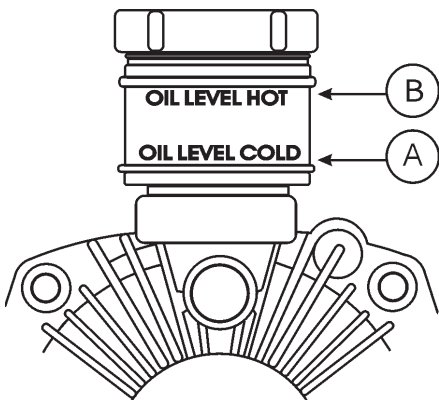

Figure 10. Transmission Reservoir
DO NOT overfill the expansion tank. (See figure 10). Note the level marks on the oil reservoir. It is essential to reference the existing oil conditions (A) "cold" or (B) "hot" levels prior to servicing. Overfilling the transmission with oil may cause the seals to rupture, causing mechanical damage.